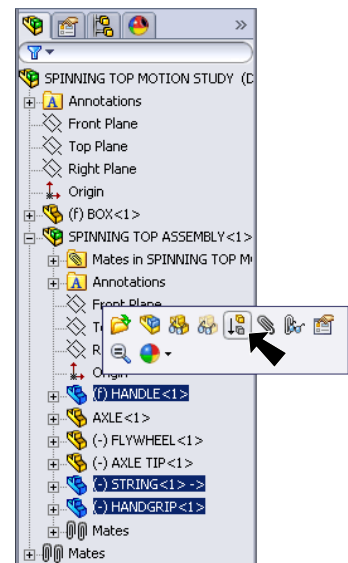

Fig. 12
Step 1. **Suppress Handle, String and Handgrip parts**, Fig. 12. To suppress the Parts, click the Handle, then hold down the **Ctrl** key and click String and Handgrip. Release Ctrl key and click **Suppress**  from menu.